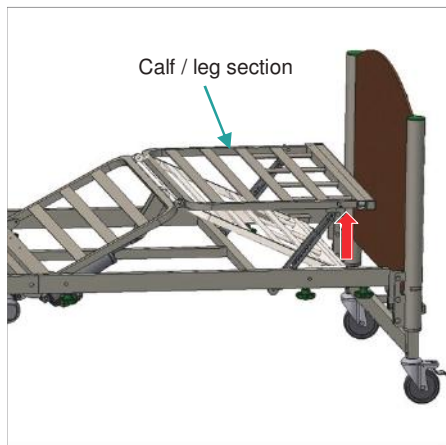

Figure 13: Raising manual calf section
- To decrease the knee break angle, manually raise the calf/leg section to the desired position. The calf/leg section will automatically lock into place (*Figure 13*).